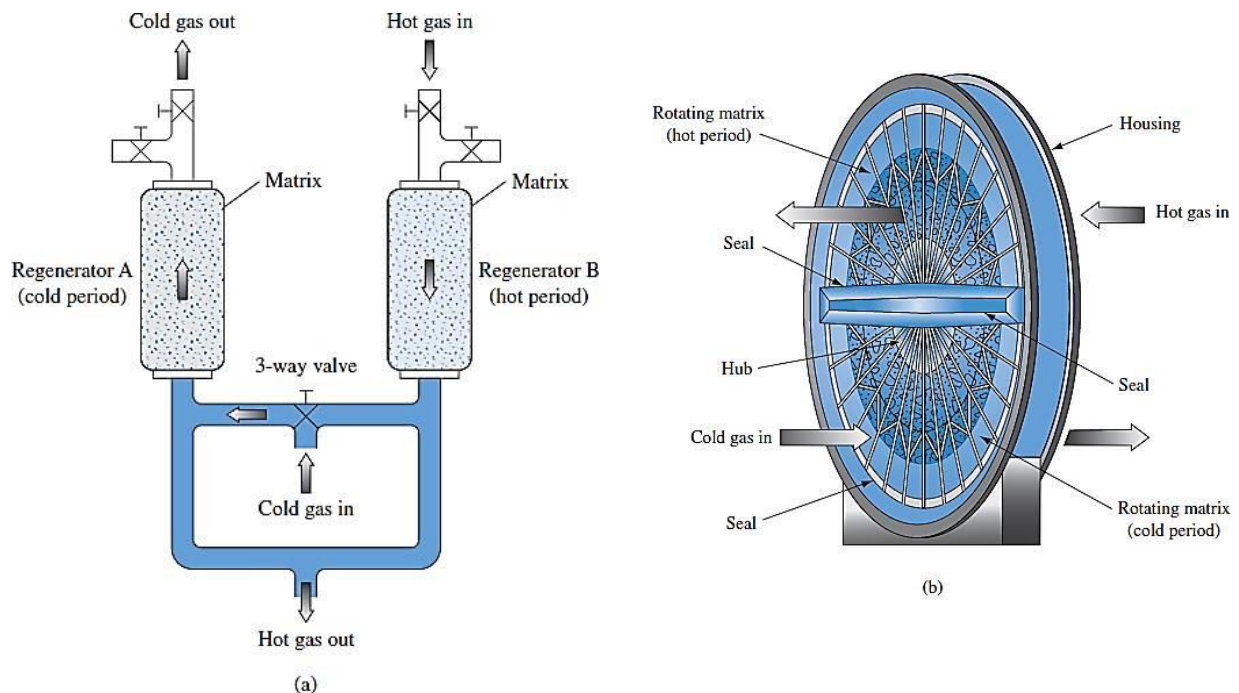

Fig.9.1 (a) Fixed dual-bed regenerator (b) Rotary regenerator
- In a fixed matrix configuration, the hot and cold fluids pass alternately through a stationary matrix, and for continuous operation two or more matrices are necessary, as shown in Fig. 9.1(a). One commonly used arrangement for the matrix is the “packed bed”. Another approach is the rotary regenerator in which a circular matrix rotates and alternately exposes a portion of its surface to the hot and then to the cold fluid, as shown in Fig. 9.1(b).